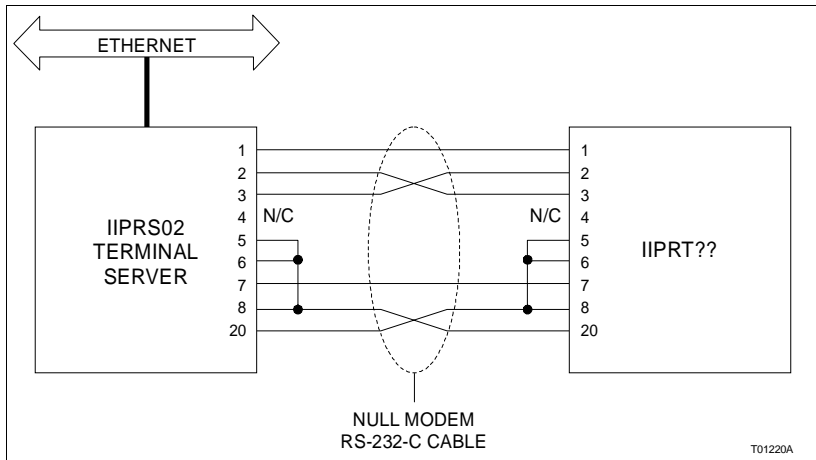

Figure PR34-1. Printer Cable Configuration
- 3. Connect one end of the printer cable to the DB-25 serial connector of the printer (Fig. PR34-1).